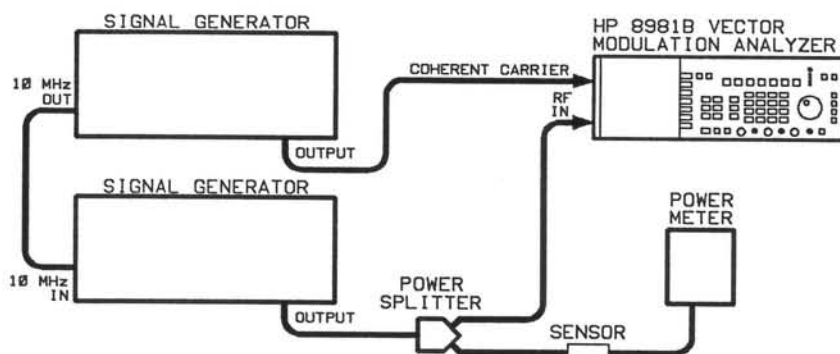

Figure 4-5. Corrected dc Accuracy Test Setup
1. Connect the equipment as shown in Figure 4-5.